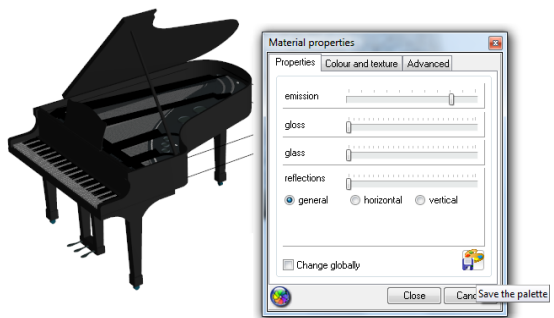

Fig. 289 - object with attributed textures, defining the properties and saving the palette
- in a new dialog box define the properties of the object accordingly to your needs and preferences (Fig. 289);